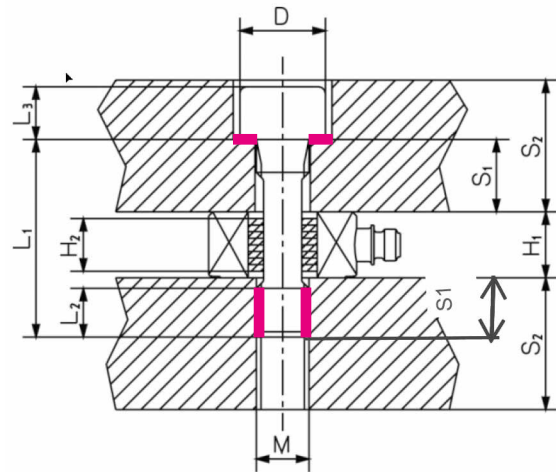

Fig. 1: Detailed dimensions for sensor installation
- Grease the screw thread and contact surface under the screw head with special grease 1063 (red marks in Fig.1).